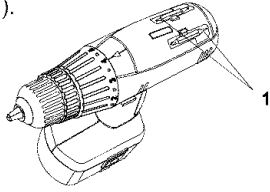

Fig. 3
Convenient screwdriver bit storage (1) is provided at the rear of the drill housing (see Fig. 3).